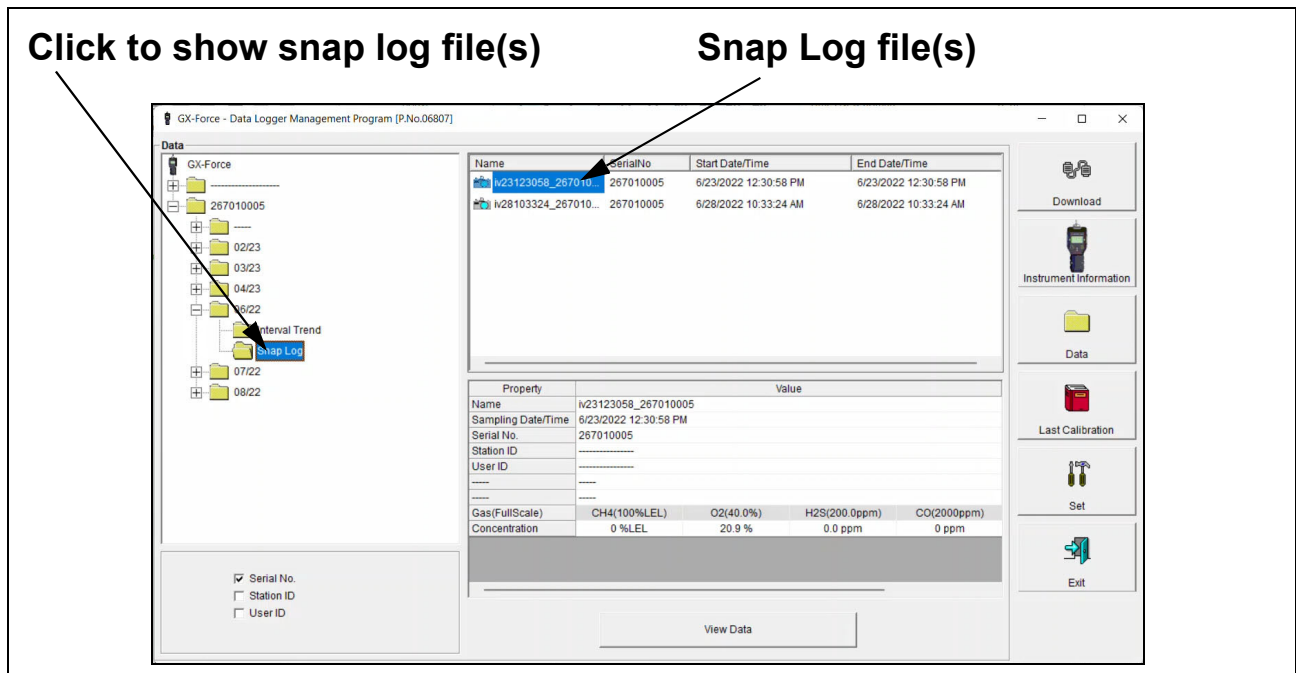

Figure 19: Data Window - Selecting Snap Log Files
6. To view the Snap Log file in table format, double click the selected file or click **View Data** at the bottom of the Data Window shown in Figure 19. Snap Log files can only be viewed in table format.